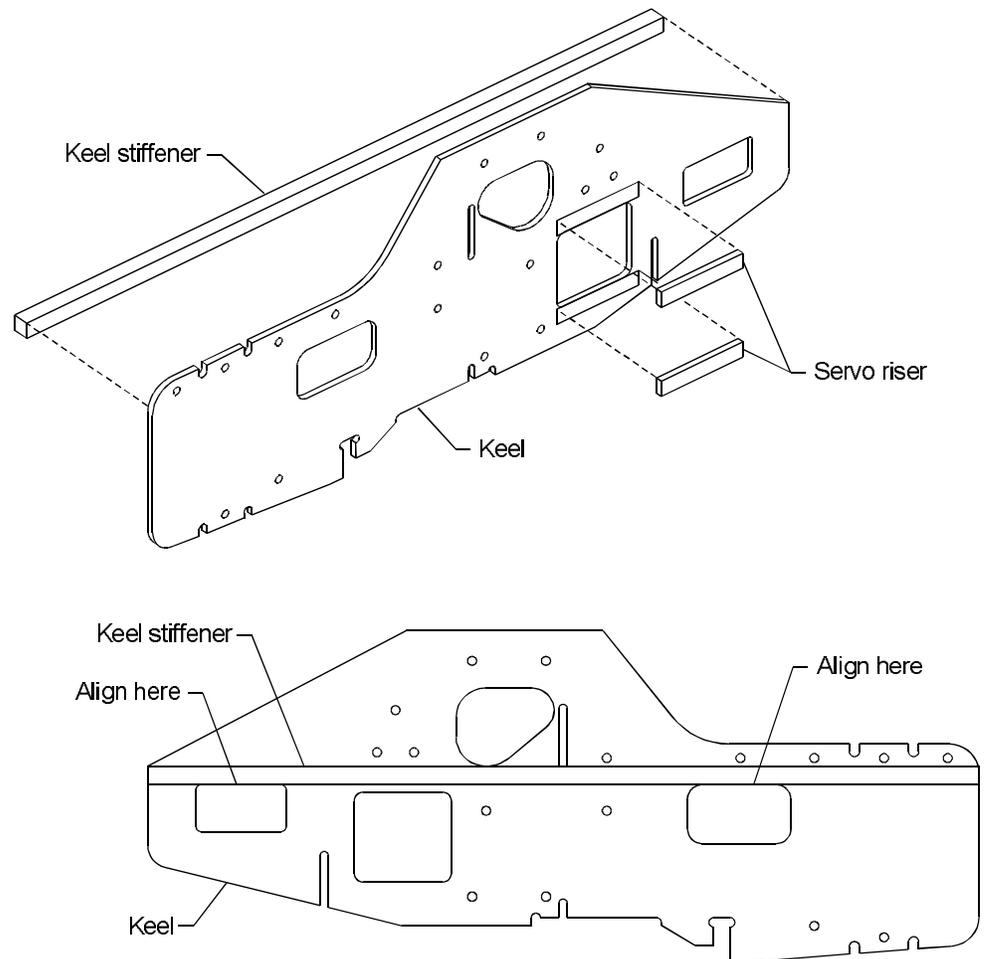

Figure 5-1.
- ❑ 3. Glue the keel stiffener to the keel with thick CA glue and align the stiffener with the holes in the keel (see Fig. 5-1). Hold the stiffener in position until the glue sets.